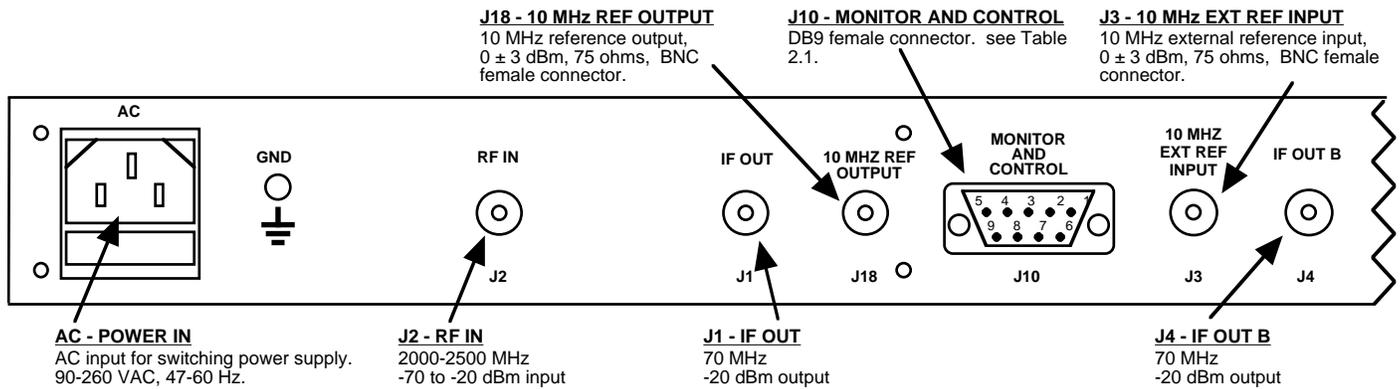

FIGURE 2.2 2016-225 Downconverter Rear Panel Inputs/Outputs
2.2 Rear Panel Input/Output Signals - Figure 2.2 shows the input and output connectors on the rear panel.
1. Connect a -70 dBm to -20 dBm signal to RF In, J2 (Figure 2.2)
Alarm indications appear on the LEDs (see figure 2.2).